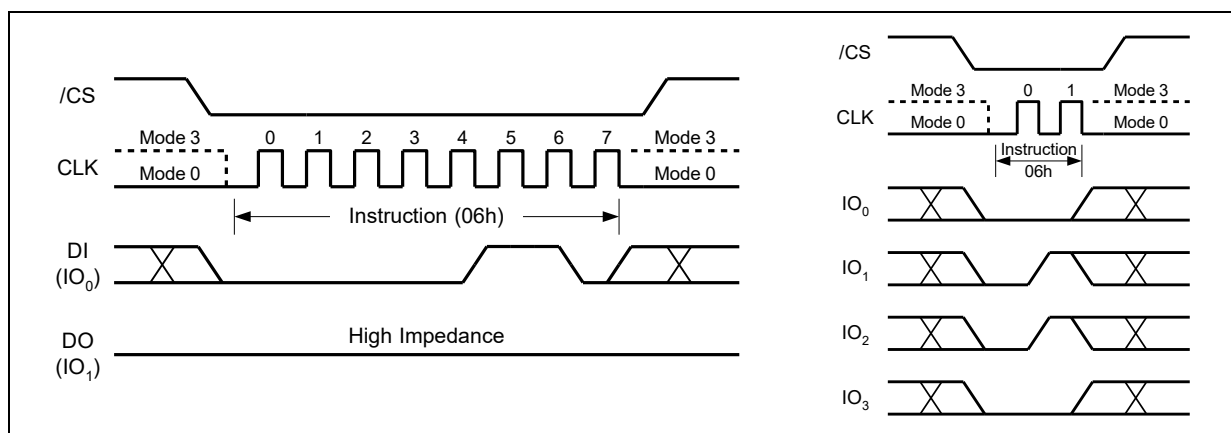

Figure 5. Write Enable Instruction for SPI Mode (left) or QPI Mode (right)
The Write Enable command (Figure 5) sets the Write Enable Latch (WEL) bit in the Status Register to a 1. The WEL bit must be set prior to every Page Program, Quad Page Program, Sector Erase, Block Erase, Chip Erase, Write Status Register and Erase/Program Security Registers command. The Write Enable command is entered by driving /CS low, shifting the command code "06h" into the Data Input (DI) pin on the rising edge of CLK, and then driving /CS high.